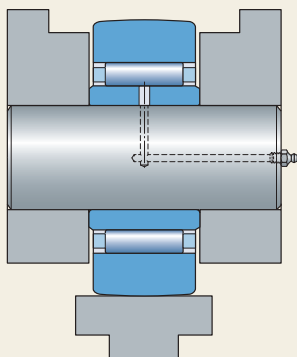

Fig. 12
- support rollers with flange rings (fig. 12)
- over the entire flange ring side faces (fig. 12)